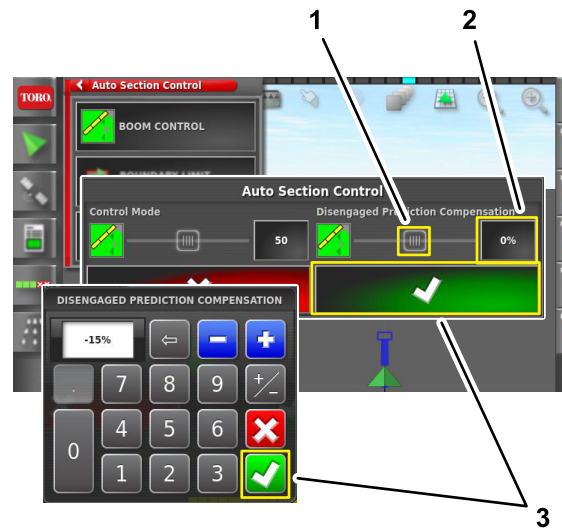

Figure 110
3. Adjust disengaged prediction compensation setting (Figure 110) as follows:
- Press the VALUE icon; enter a positive (+) value, neutral (0) value, or negative (-) value with the on-screen keypad; and press the confirm icon (Figure 110).
- Slide the on-screen slider left or right (Figure 110).